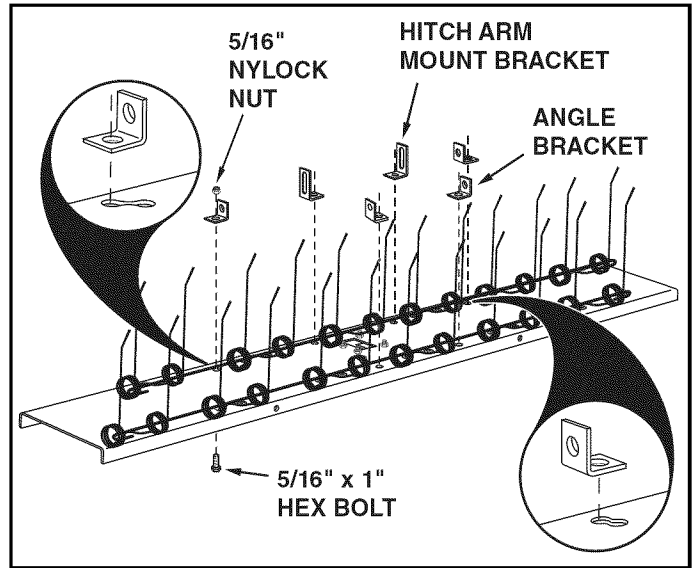
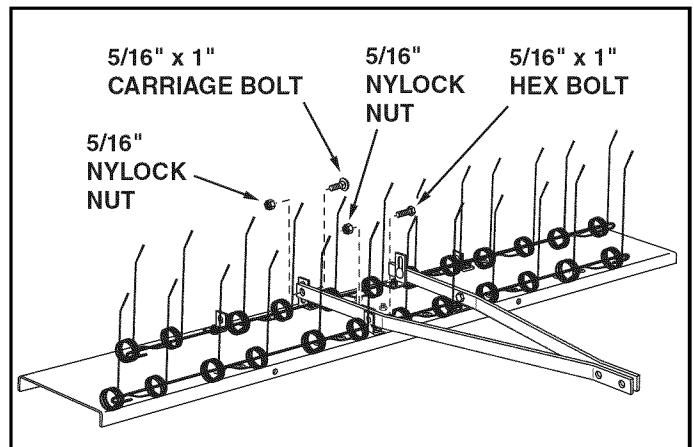
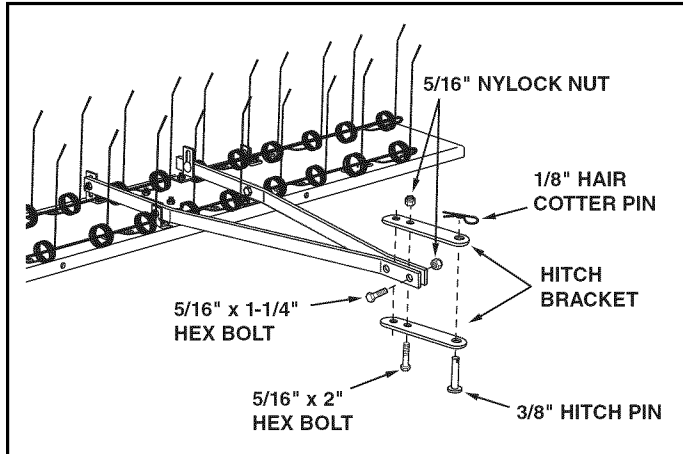

FIGURE 2
FIGURE 3
FIGURE 4
- Assemble two (tall) hitch arm mount brackets and two (short) angle brackets to the bottom of the tine shield at the rear. Use four 5/16" x 1" hex bolts and 5/16" nylock nuts. **Do not tighten yet.** Position the brackets as shown in figure 2.
- Assemble two angle brackets to the bottom of the tine shield at the front. Use two 5/16" x 1" hex bolts and 5/16" nylock nuts. **Do not tighten yet.** Position the brackets as shown in figure 2.
- Fasten the hitch mount arms to the outside of the front angle brackets. Use two 5/16" x 1" hex bolts and 5/16" nylock nuts. **Tighten, then loosen** the nuts slightly. See figure 3.
- Fasten the hitch mount arms to the outside of the rear hitch arm mount brackets. Use two 5/16" x 1" carriage bolts and 5/16" nylock nuts. **Do not tighten yet.** See figure 3.
- Assemble the front ends of the hitch mount arms together using two 5/16" x 1-1/4" hex bolts and 5/16" nylock nuts. **Do not tighten yet.** See figure 4.
- Assemble the hitch brackets to the hitch mount arms using two 5/16" x 2" hex bolts and 5/16" nylock nuts. **Do not tighten yet.** See figure 4.
- Assemble the 3/8" hitch pin through the hitch brackets and secure it with a 1/8" hair cotter pin. See figure 4.
- **Tighten** the bolts and nuts assembled in figure 4. **Tighten** the bolts and nuts assembled in figure 2. **Tighten** the rear bolts and nuts assembled in figure 3.